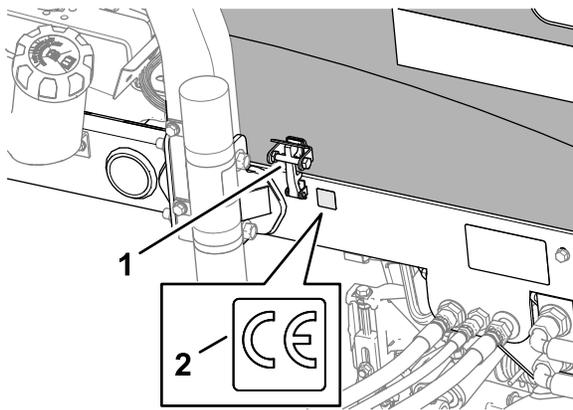

Figure 38
3. Wipe clean the left frame near the hood lock with alcohol, and allow the frame to dry (Figure 38).
4. Remove the backing and apply the CE decal Part No. 133-8095 to the frame as shown in Figure 38.